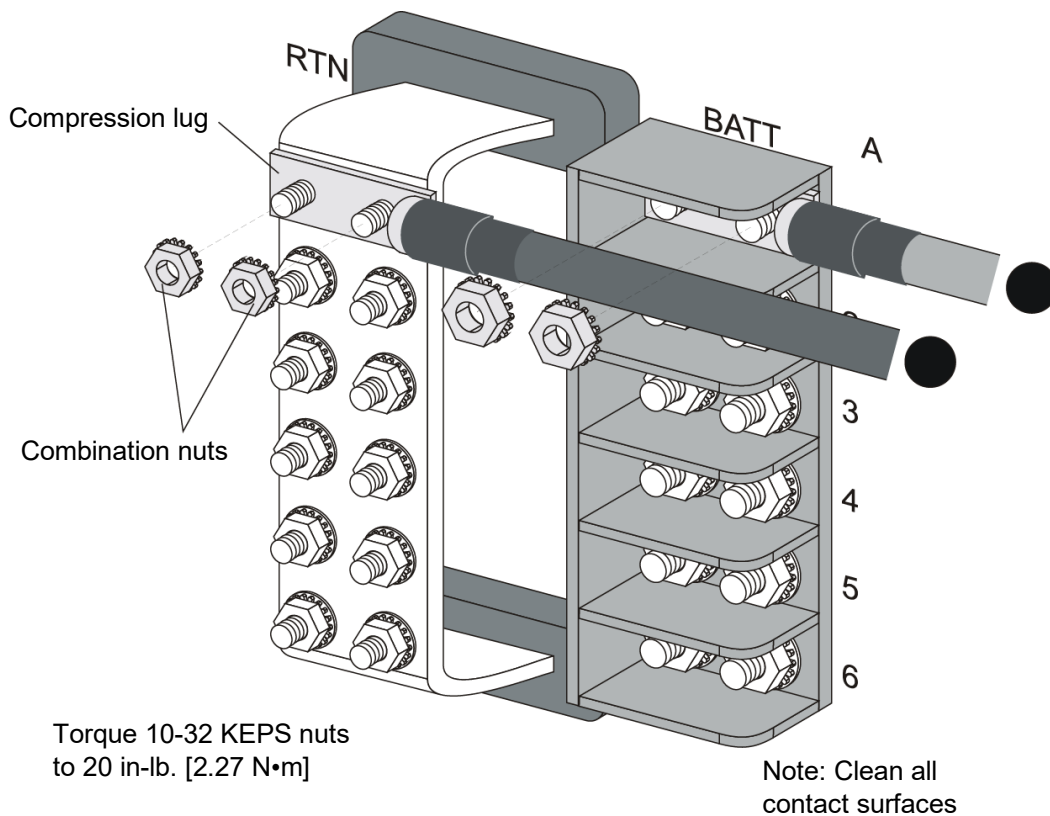

Fig. 7: CB/TFD Output Lug Connections
26. If required, lightly coat antioxidant on the lugs and output **BATT** and **RETURN** terminals, and then connect the lugs to the terminals, as shown in Figure 7. (NEC specifies only one lug and load at each output terminal.)